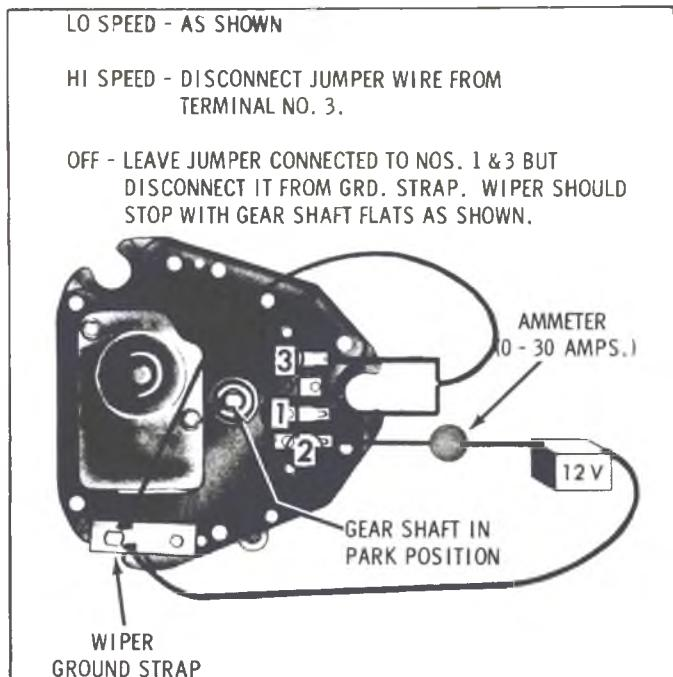

Fig. 50-Jumper Wire Connections
3. Disconnect wiring harness from wiper and try operating wiper as shown in Figure 50.